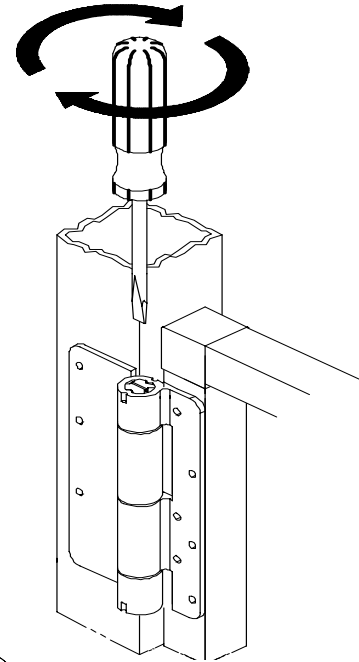

FIGURE 8
- 4.1. To adjust hinge tension, depress the cam with a 5/16" wide tip slotted screwdriver and turn the cam 1/4 turn, then allow the cam to rise to engage the two dimples. Clockwise increases tension. See Figure 8 (on next page). Tension the hinges equally.